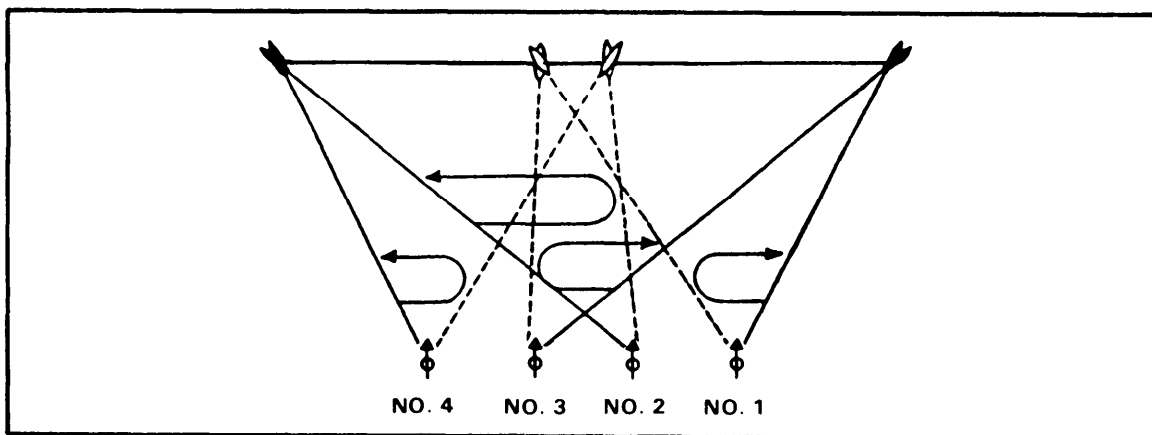

Figure 6-13. Four MK 19s, target 100 to 200 mils in width.
- o Each pair of MK 19s engages the whole target (Figure 6-13).